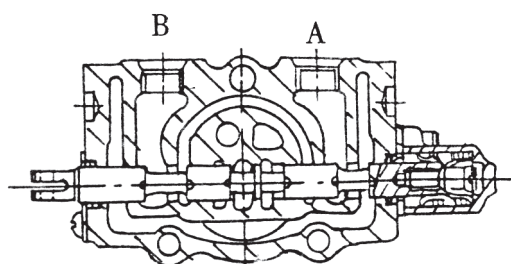

Fig.7.3 Push slide valve
(6) Pushing-in of plunger (See fig.7-3)